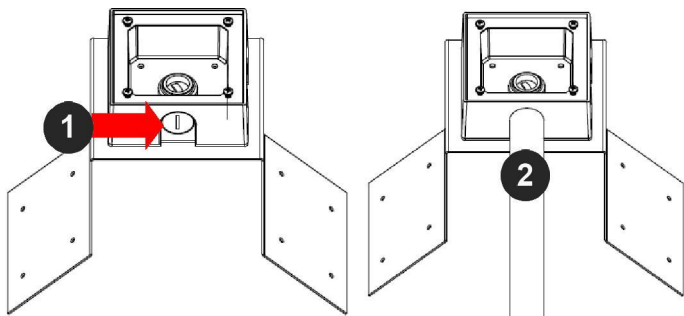

Figure 1: Attach conduit to SV-JBA junction box adapter
- 3. Attach the Junction Box Adapter to the Corner Mount Adapter as shown in Figure 1.
- 4. Remove the conduit plug on the junction box adapter and connect 3/4" NPT conduit to the junction box adapter as shown in Figure 1.